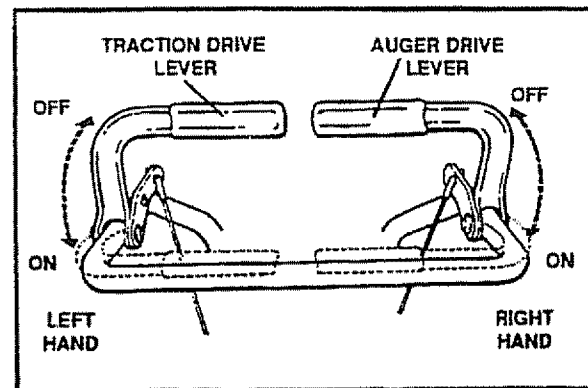

FIG. 11
- To stop throwing snow, release the auger drive lever (See Fig. 11).
- Engage the traction drive lever (See Fig. 11, left hand). As the snow thrower starts to move, maintain a firm hold on the handles, and guide the snow thrower along the clearing path. Do not attempt to push the snow thrower.
- Push down the auger drive lever (See Fig. 11, right hand).